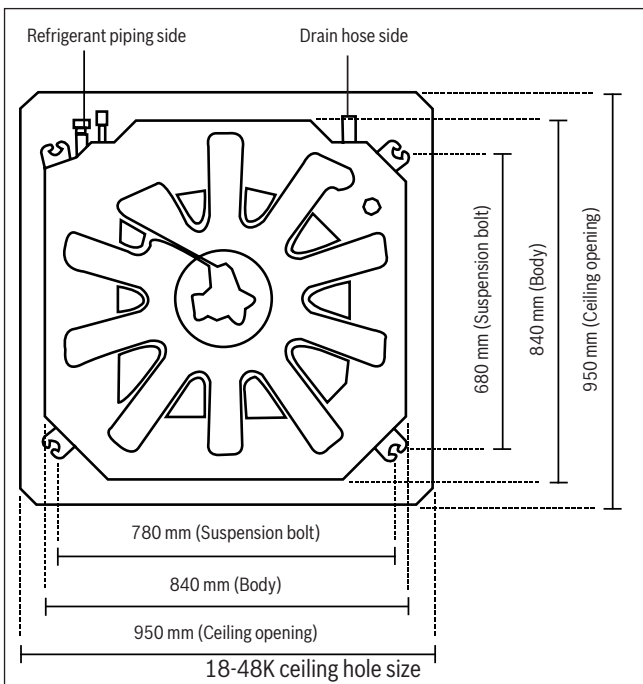

Fig. 3.
1. Use the included paper template to cut a rectangular hole in the ceiling, leaving at least 1 m on all sides. The cut hole size should be 40 mm larger than the body size (See Fig. 3). Ensure to mark the areas where ceiling hook holes will be drilled.